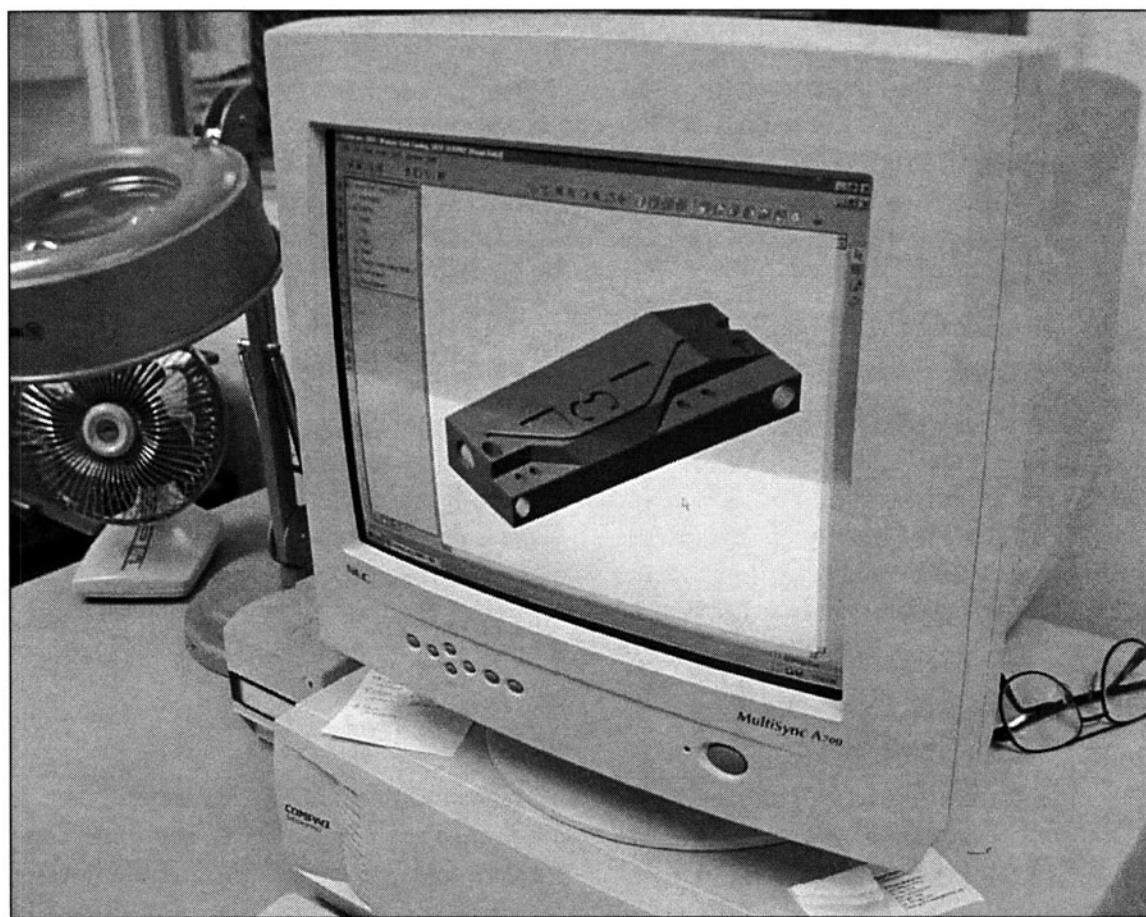

FIGURE 15-1 CAD systems are increasingly making their way to the shop floor. This system is available for anybody in our shop to use.
1. *Learn a CAM (computer aided machining) program. (See Fig. 15-1)*